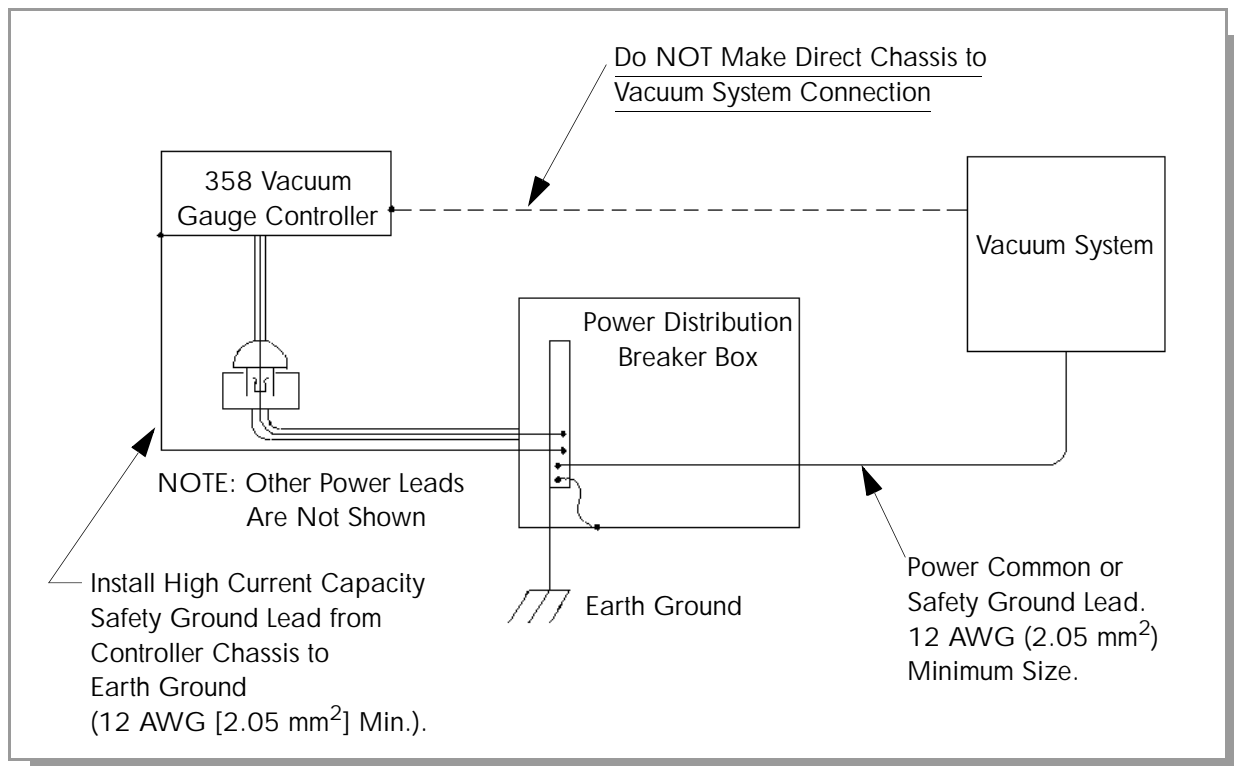

Figure 3-3 Correct System Grounding.
4. If the voltage calculation in Step 3 is less than 0.83, due to the placement of the shunt, it complicates the measurement. The commonality of the grounds may be satisfactory and the coupling poor, or the commonality could be poor! Your electrician should be asked to check the electrical continuity between these two ground systems. The placement of a second ground wire, (dashed line in Figure 3-3), between the vacuum chamber and the Series 358 Controller chassis is not a safe answer for large currents could flow through it. Professional help is recommended.